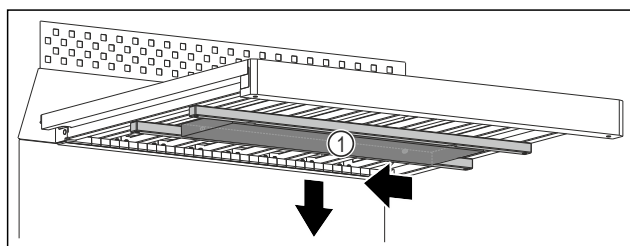

Fig. 111
- Push the water box Fig. 111 (1) to the left.
- Remove the water box Fig. 111 (1) downwards.